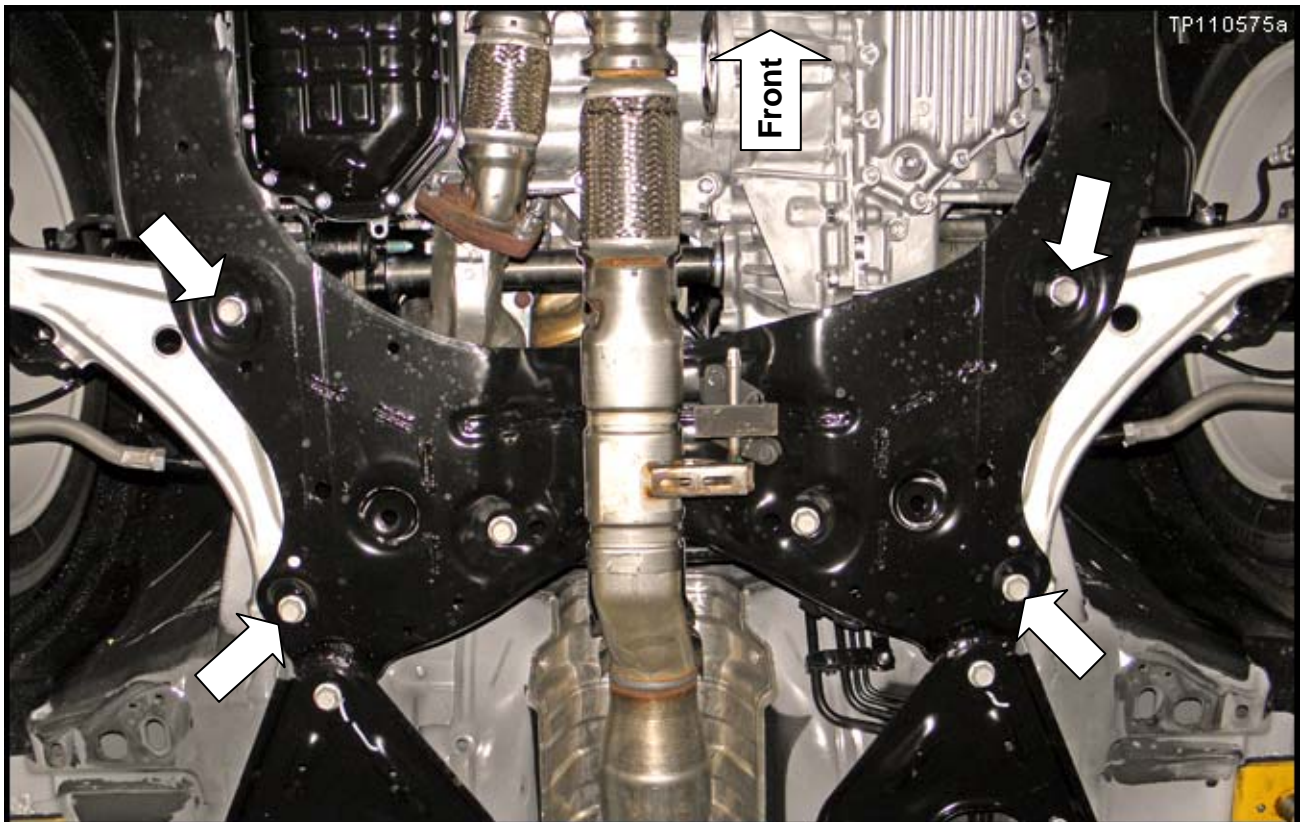

Figure 1
2. Locate the front transverse link bolts (see Figure 1).